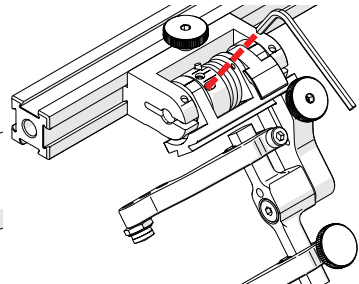

Fig. 81 - Unlatched position
3. Insert the short arm of a 3 mm hex wrench into the 3 mm slot (Fig. 81).